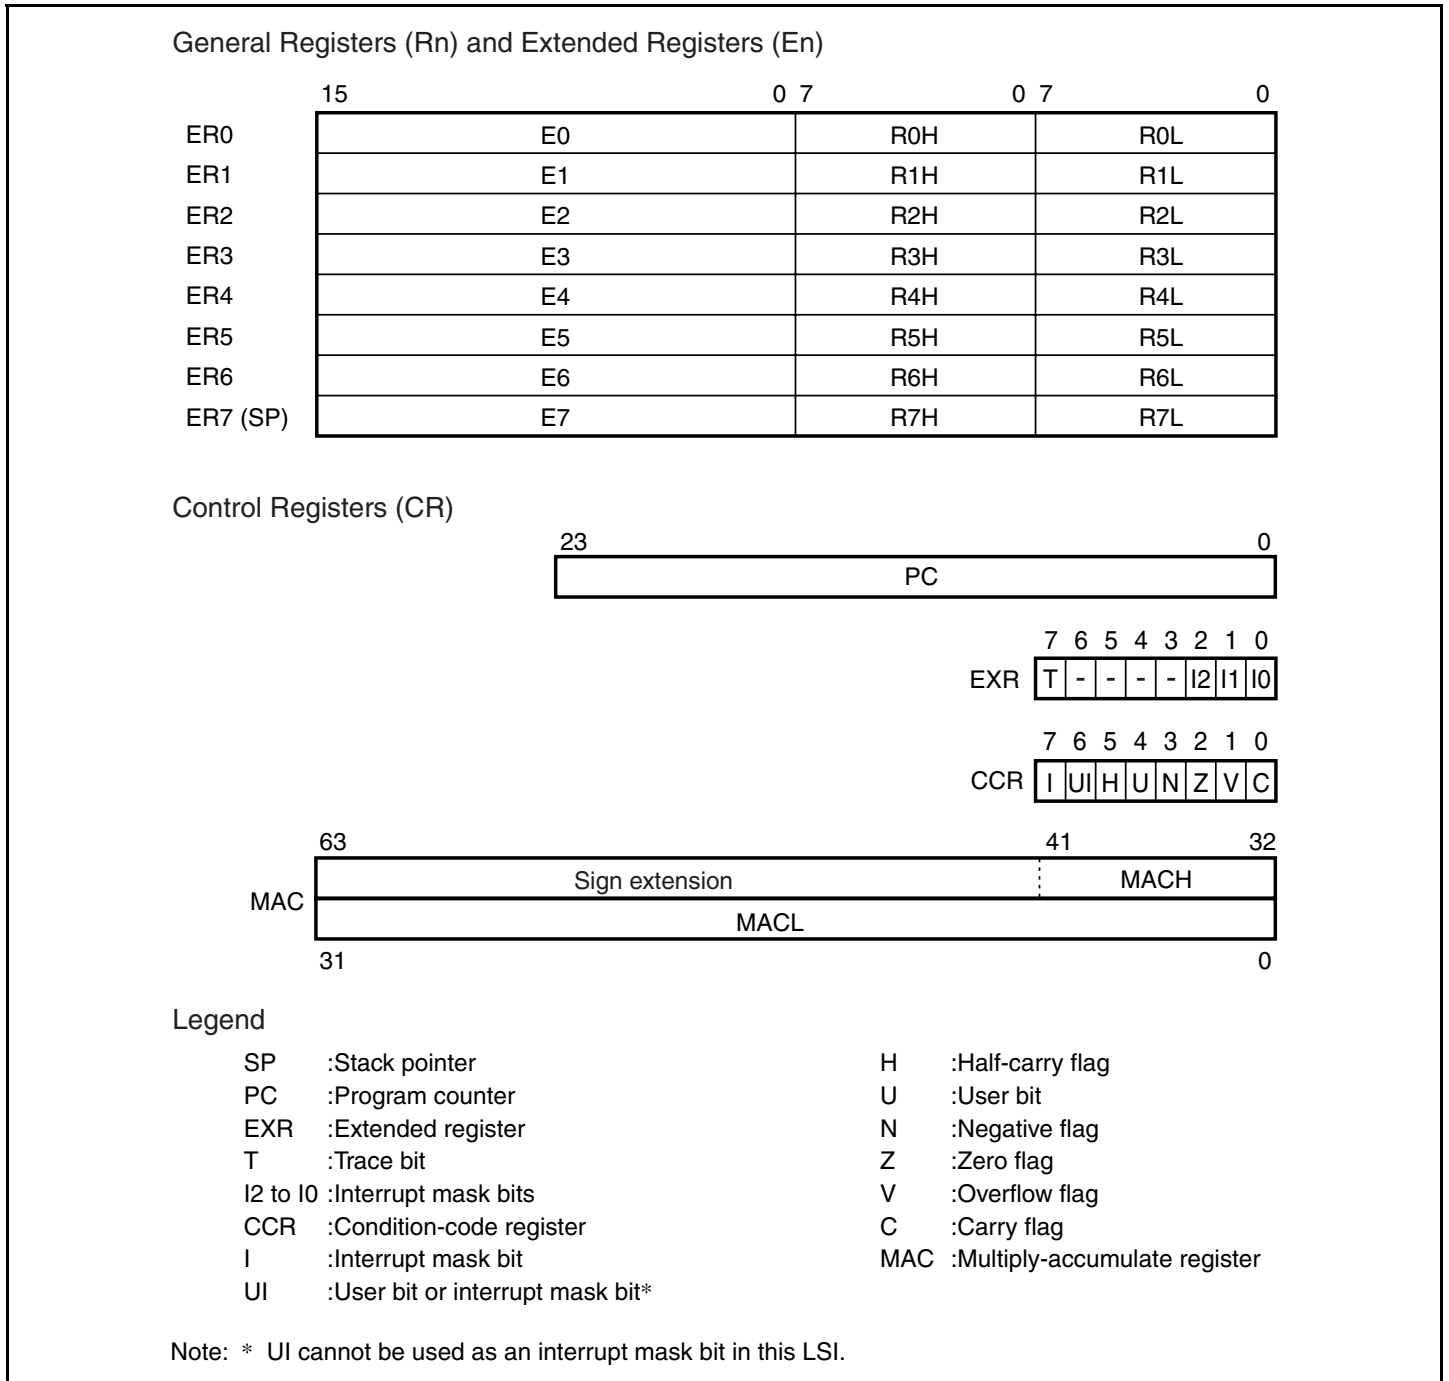

Figure 2.6 CPU Registers
The H8S/2600 CPU has the internal registers shown in figure 2.6. There are two types of registers: general registers and control registers. Control registers are a 24-bit program counter (PC), an 8-bit extended register (EXR), an 8-bit condition code register (CCR), and a 64-bit multiply-accumulate register (MAC).